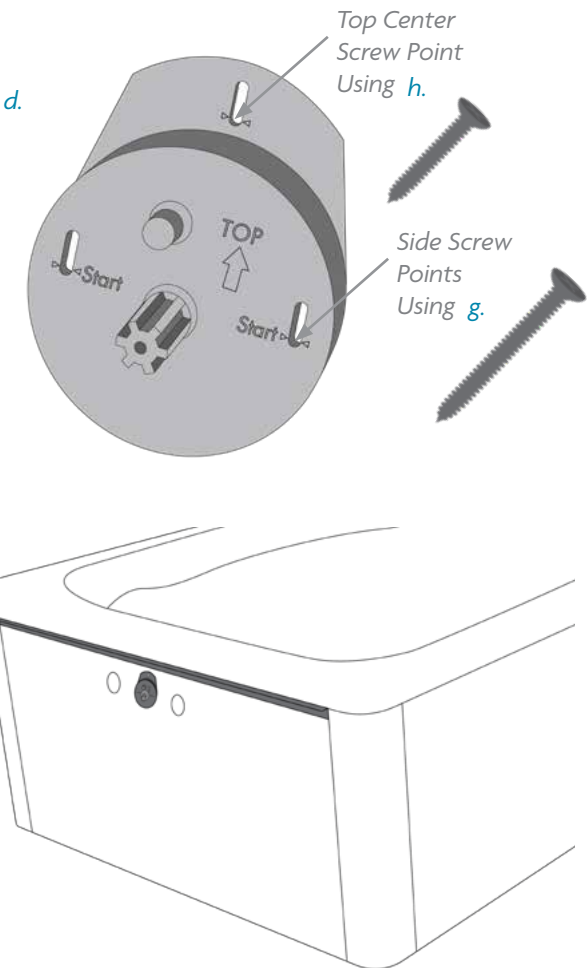

FIGURE 4
3. **ROTATING LEVER LATCH** At the center of the 8' end of the swim spa, use a level or straight edge to reference the top of the swim spa shell. Measure down 10" and mark this center point for the top center screw of the Rotating Lever Latch Base (d). With the arrow facing up, mount base of Rotating Lever Latch to swim spa skirting (Figure 4) using 1 #10x1 1/2" screw (h) for the top mounting point. Use 2 #10x2 1/2" screws (g), for the two lower mounting points on the base (left and right). The Rotating Lever Latch may mount over a skirt vent which is normal (if vent prohibits base mounting flush, simply remove vent when mounting base). Mount with screws at the lowest point in the slots on the Rotating Level Latch Base. The slot is present to allow downward adjustment of the base if necessary later. Repeat for opposite end. *(Continued...)*